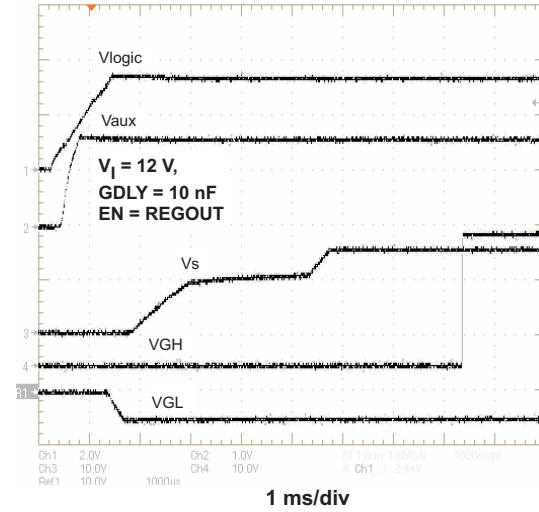
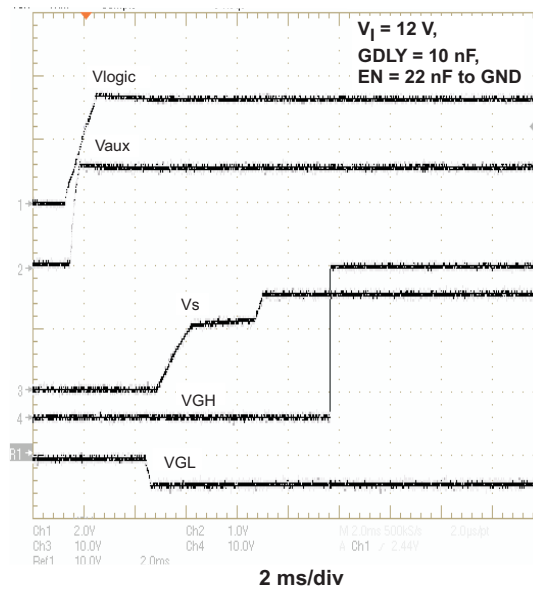
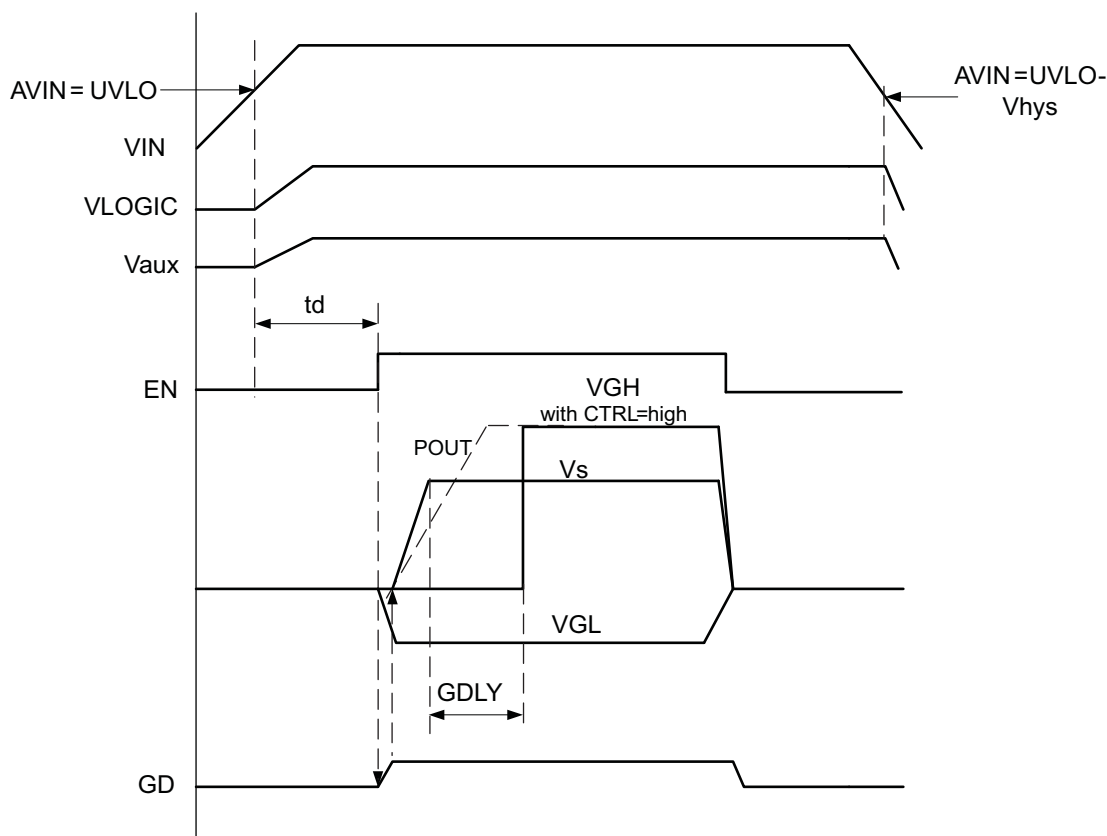

Figure 18.
Figure 19.
Figure 21. Power Up Sequencing
The device has an adjustable start-up sequencing to provide correct sequencing as required by LCD. When the input voltage exceeds the undervoltage lockout threshold, then the step-down converter and LDO controller start-up at the same time. As the enable signal (EN) goes high, the negative charge pump starts up followed by the boost converter  $V_s$  starting at the same time as the positive charge pump. See the typical curves shown in Figure 18, Figure 19, and Figure 21.
If no logic control signal is available, it is also possible to connect a capacitor to this pin to set the delay time  $t_d$  as shown in Figure 21 and Figure 19.